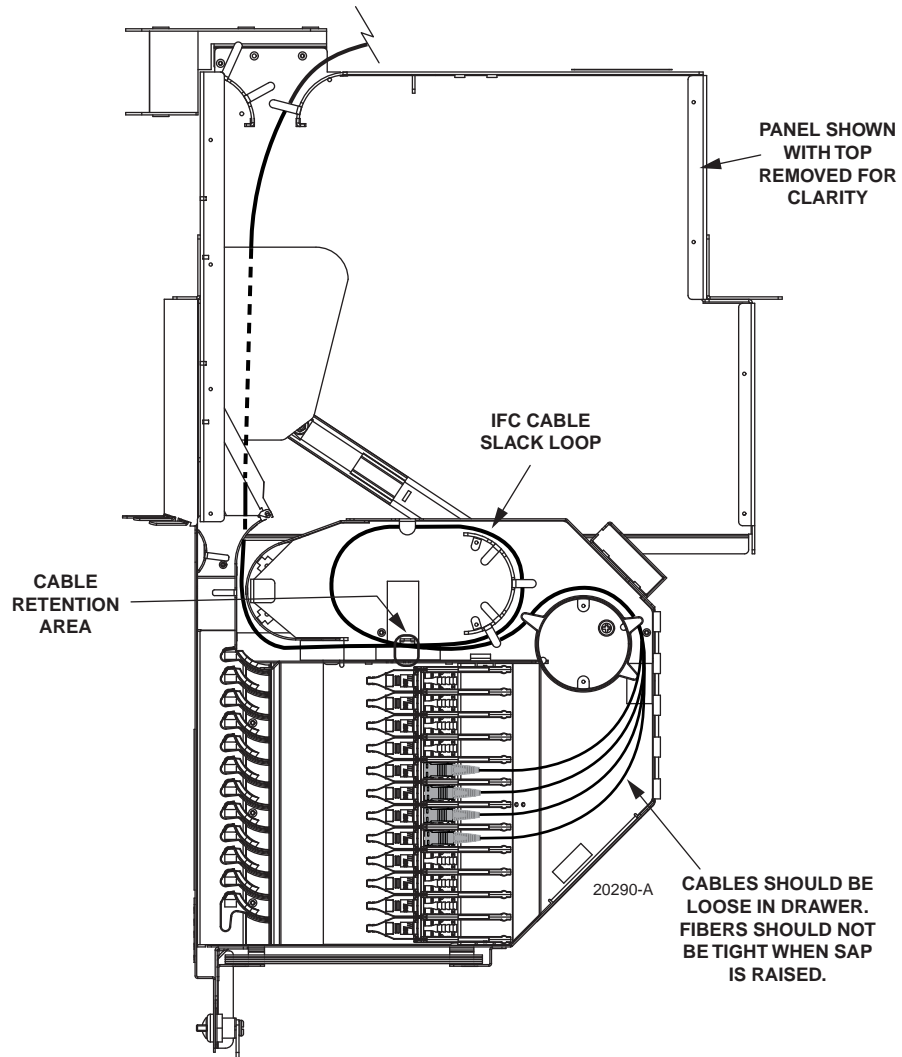
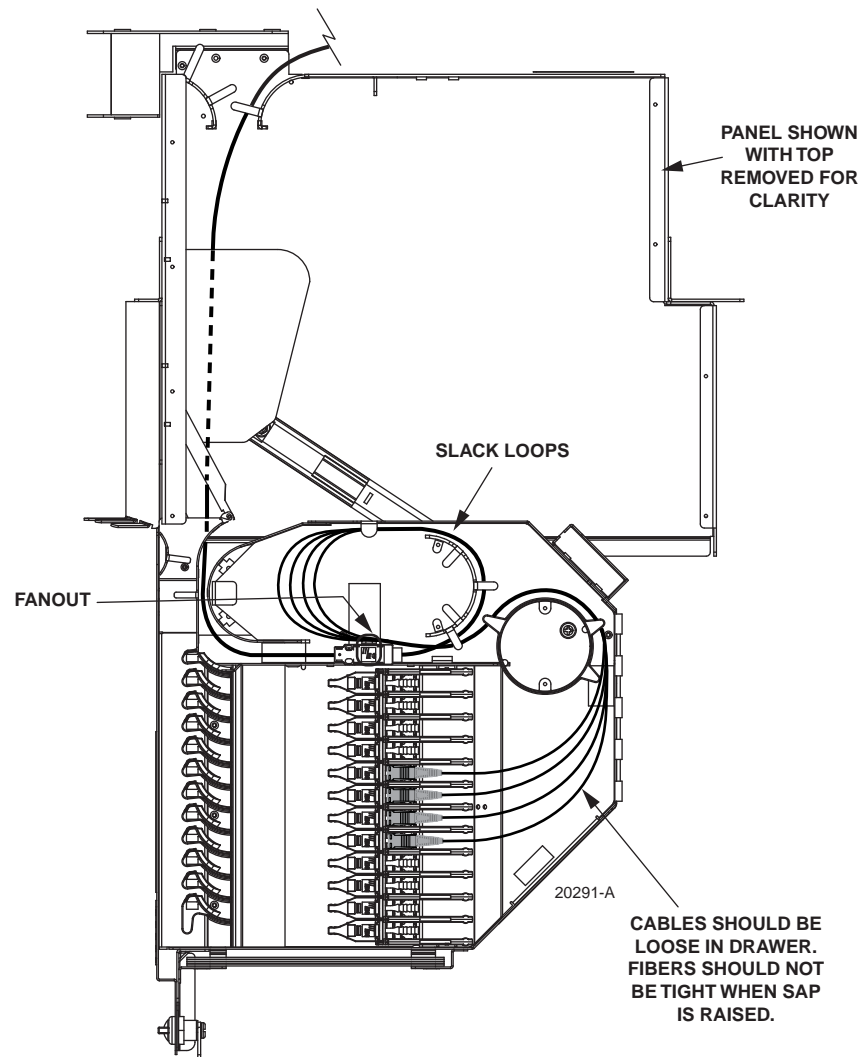

Figure 25. Stranded Cable Routing Within Standard Termination Panel
Figure 26. Ribbon Cable Routing Within Standard Termination Panel
7. Route cable fibers within drawer as shown in Figure 25 (stranded cable) or Figure 26 (ribbon cable).
10. Secure the cable to the drawer at the cable retention area using the O-ring provided with the panel. Refer to Figure 25 or Figure 26 for details.
14. Remove the splice tray cover and then secure the ribbon tube to the splice tray at the point indicated in Figure 25. Use wax lacing to attach the ribbon tube to the splice tray.